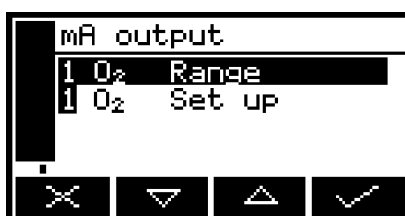

Figure 21 -The mA configuration screen (one measurement instrument)
3. Return to the mA configuration screen (Figure 21) and select 'Set up' option.